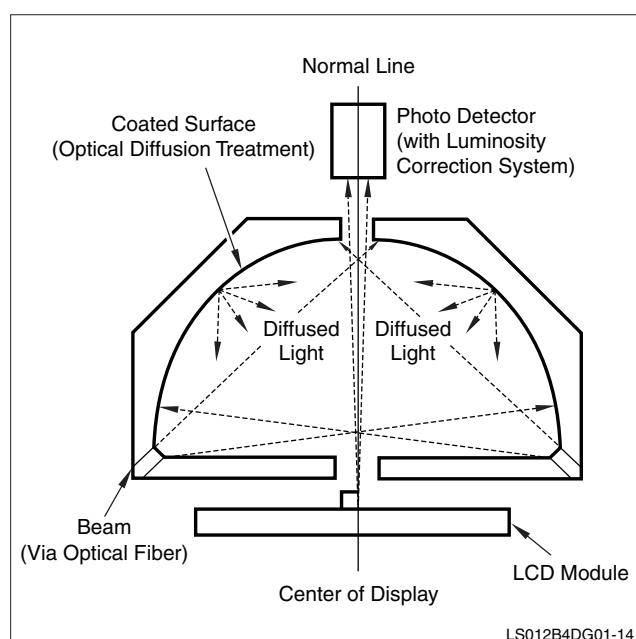

Figure 4. Setup for Contrast, Reflection Ratio, and Chromaticity
- Contrast Ratio, Reflectivity Ratio, and Chromaticity are measured through the use of an integrating sphere. See Figure 4.